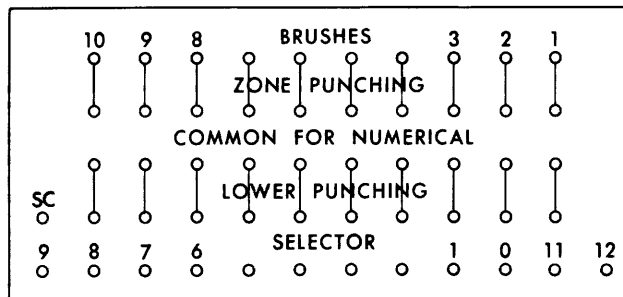

Figure 36. Multiple-Column Selection Feature Control Panel (82)
*Control Panel and Switches:* Each brush of the ten-position brush assembly has two corresponding exit hubs on the control panel (Figure 36) labeled *ZONE PUNCHING* and *LOWER PUNCHING*. When inserted in sorting position, brush number one is toward column 80. Each brush has a brush-selection-for-sorting switch with positions for *select* and for *sort*.